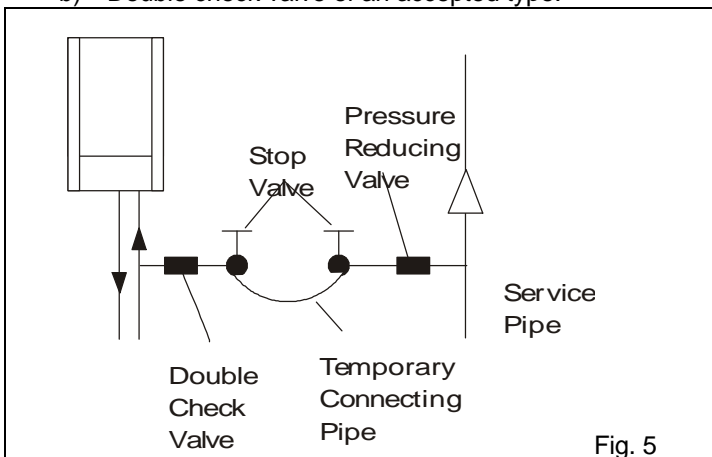

Fig. 5
**(1) Direct Method (Fig. 5)**